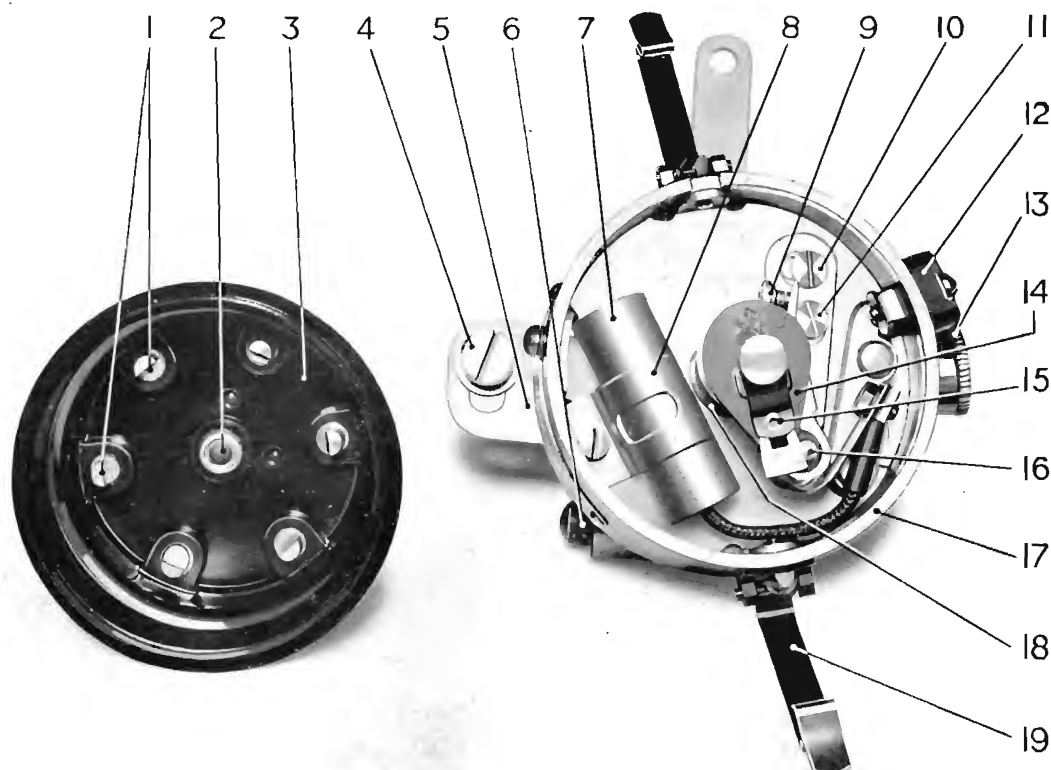
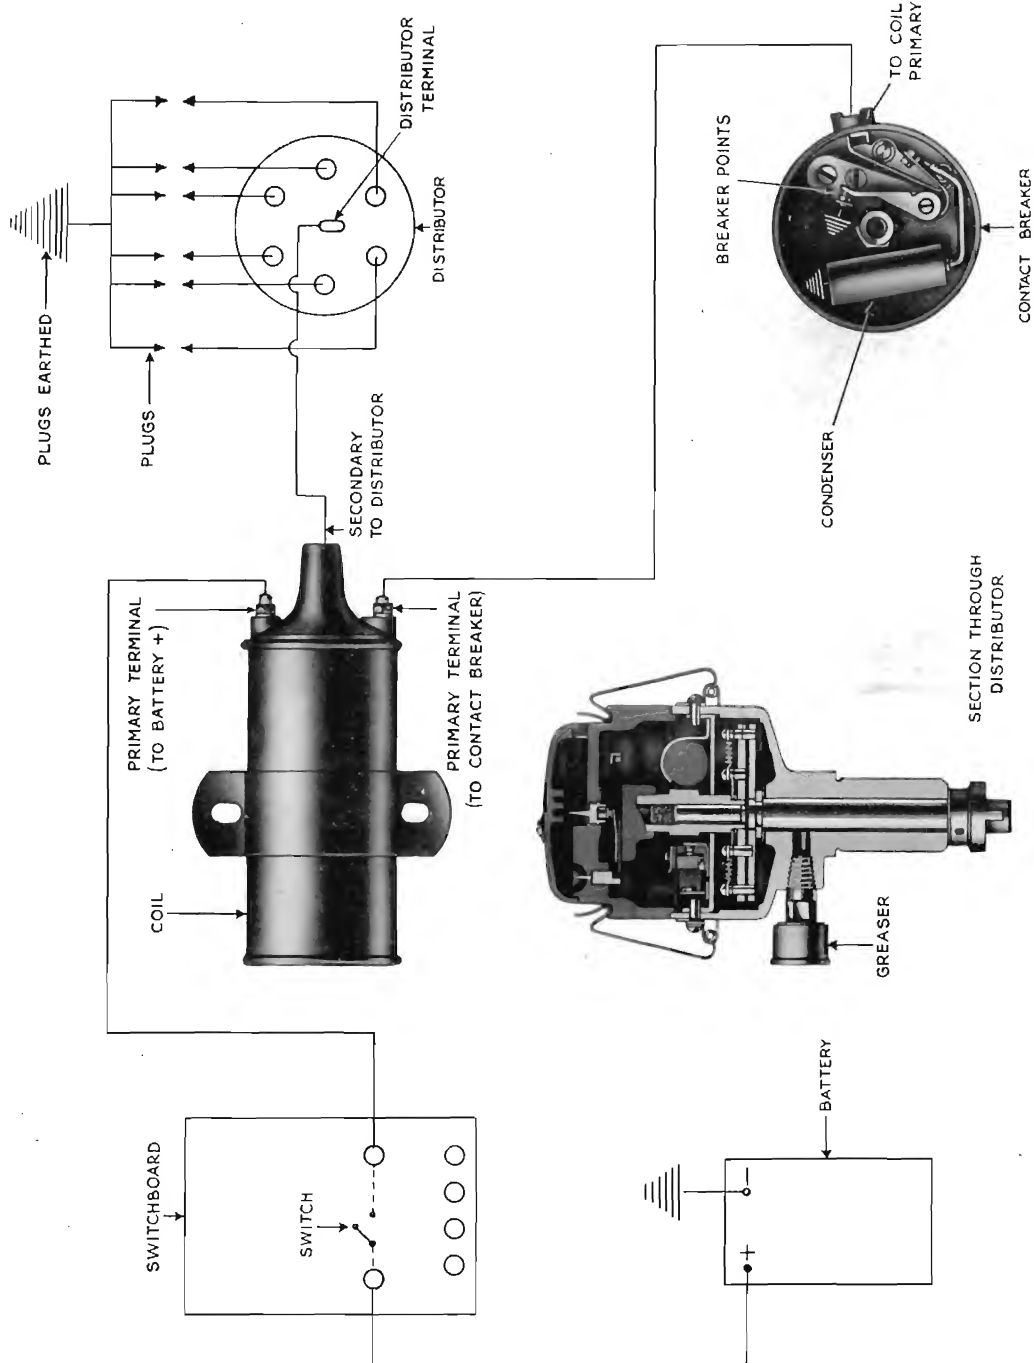
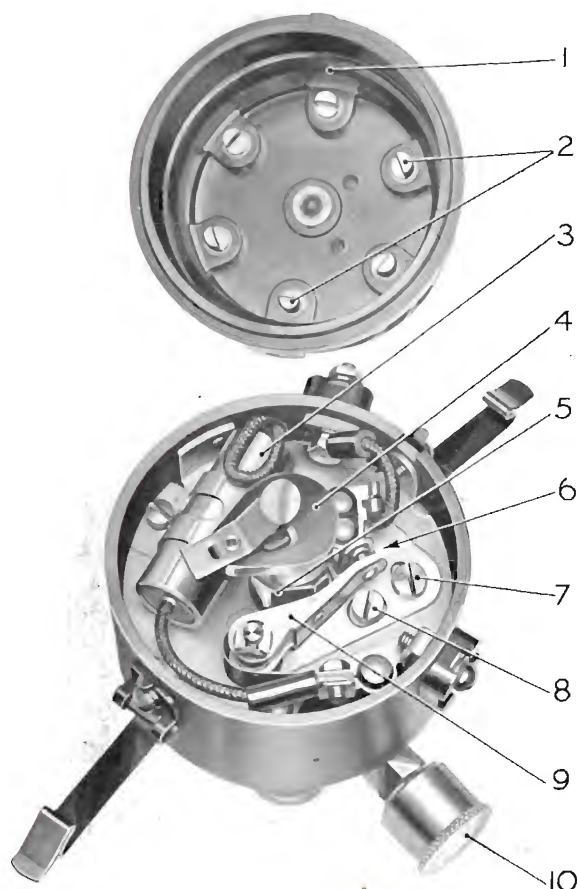

Fig. 2
Fig. 3.
Fig. 4.
As shown in the wiring diagram Fig. 3, the positive side of the battery is connected through the control switch to the primary terminal of the coil. The other primary terminal of the coil is connected to the contact-breaker terminal and the moving breaker point. The fixed breaker point and the battery negative are earthed so that
Distributor Spindle. Give the greaser (13) Fig. 2, (10) Fig. 4, a half turn every 500 miles and replenish with grease when necessary.
Distributor Camshaft. A few drops of light engine oil should be given to the felt wick in the top of the shaft under the rotor (14) Fig. 2, (4) Fig. 4, every 500 miles.
Breaker Arm Fulcrum Pin. Lubricate the fulcrum pin (16) Fig. 2, sparingly when docking.
The only parts requiring occasional adjustment are the contact points and the sparking plug gaps. To adjust the contact points slack off the screw (10) Fig. 2, (7) Fig. 4, and turn the eccentric screw (11) Fig. 2, (8) Fig. 4, until the gap between the points is .015 in. then tighten the locking screw.
The distributor should not be disturbed if it is functioning satisfactorily but at overhaul it may be desired to dismantle for inspection. Take off the cover (3), Fig. 2, complete with cables and remove the clips (19). Remove the screws securing the contact breaker plate and withdraw the plate, the camshaft and weights shown in Fig. 3, can now be withdrawn. To remove the coupling at the bottom, the taper retaining pin must be removed and the shaft withdrawn from the top.